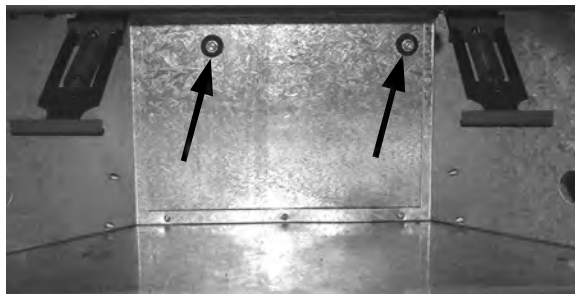

Figure 51. Grommets to Hang Fan On.
6. Install the two (2) grommets; place a 8-32 x 3/4" bolt through each grommet then attach the bolt to the back cover using a 1/4" socket (see Figure 51)
7. Ensure the wiring harness is attached to the fan then hook the two (2) slots on the fan box over the grommets installed in the last step.